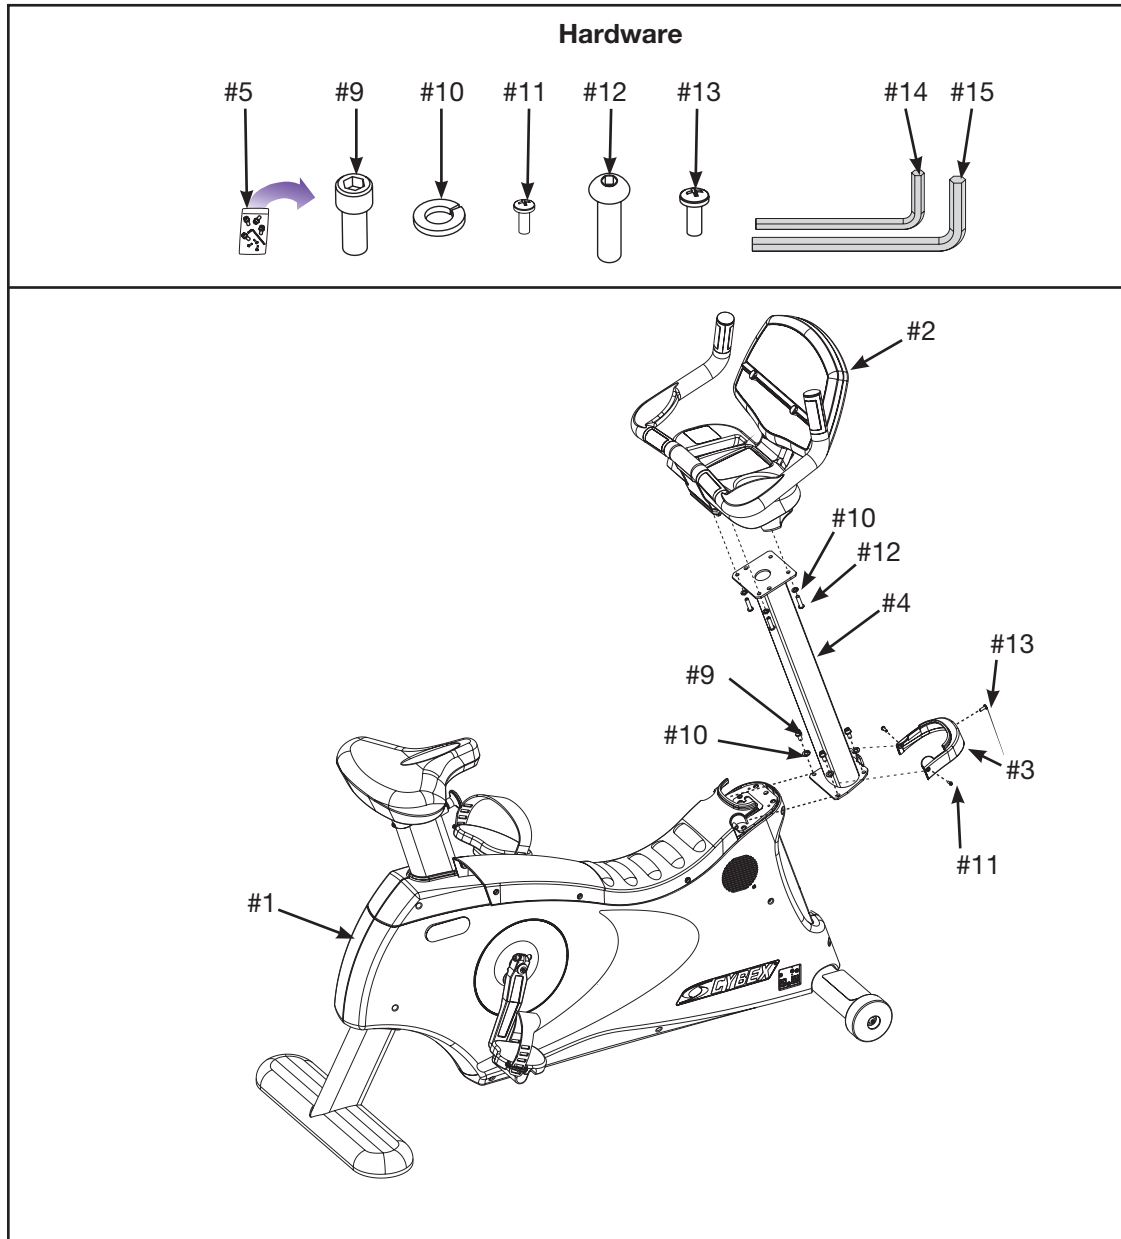

Figure 2
D. Check off () each item in the hardware pack as you find it. See Figure 2.